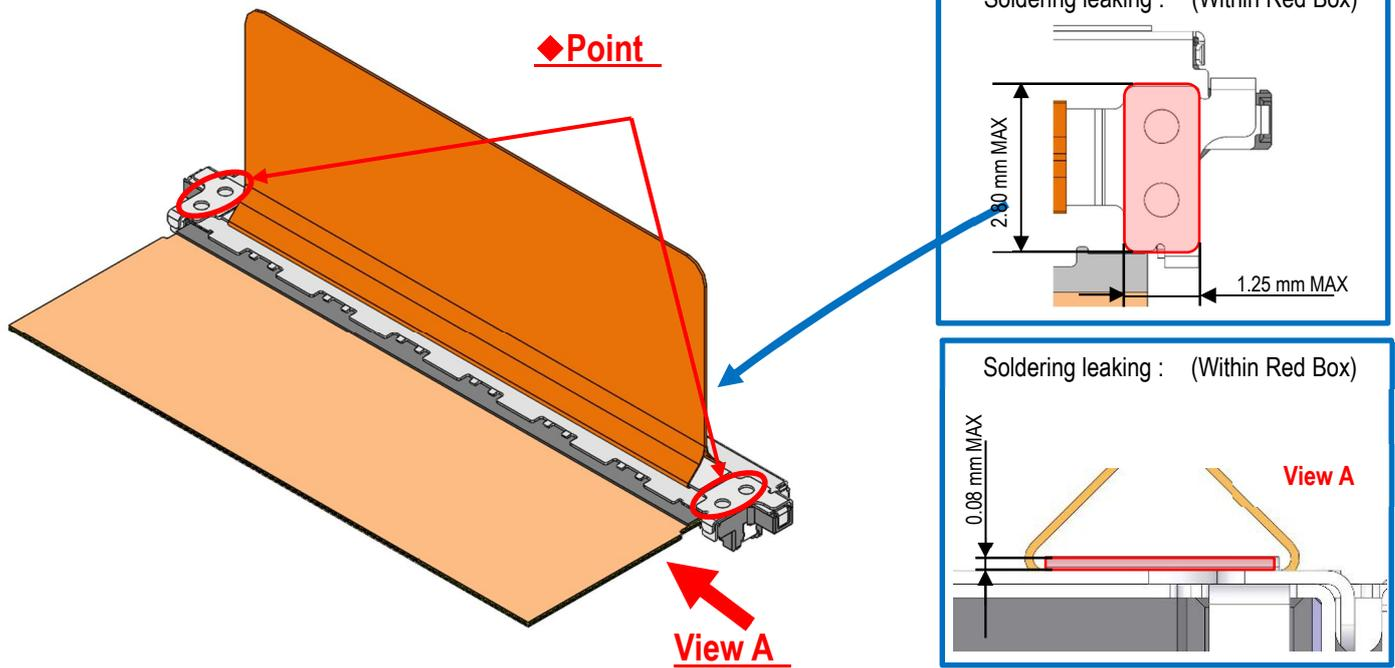

Fig.23 Soldering of Pull Tape Holder
- ③ Use soldering iron to solder pull tape holder and Shell-A. (Fig.23◆Point)